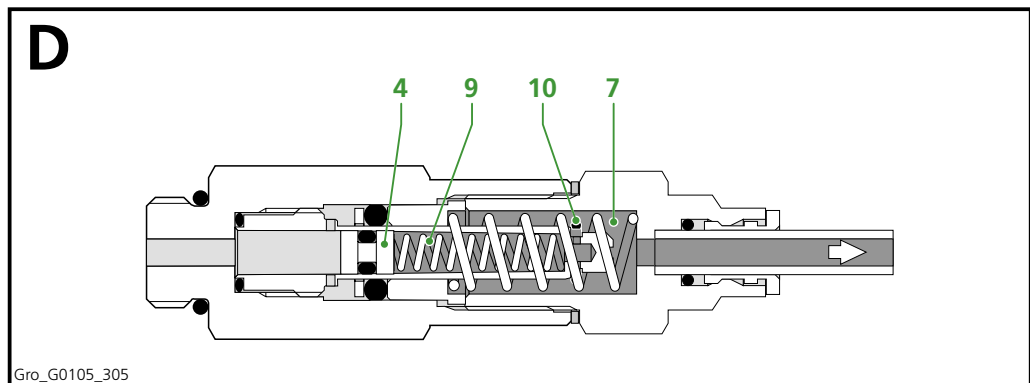

Figure 3.6 Phase D, metering unit during phase D
During the next greasing cycle, the same things happen as during phase B. Chamber (9), however, is now filled with grease (Figure 3.6). When plunger (4) is depressed, grease goes from chamber (9), through chamber (7) and the grease line, to the grease point. O-ring (10) is pushed outwards, so that the grease can leave chamber (9).